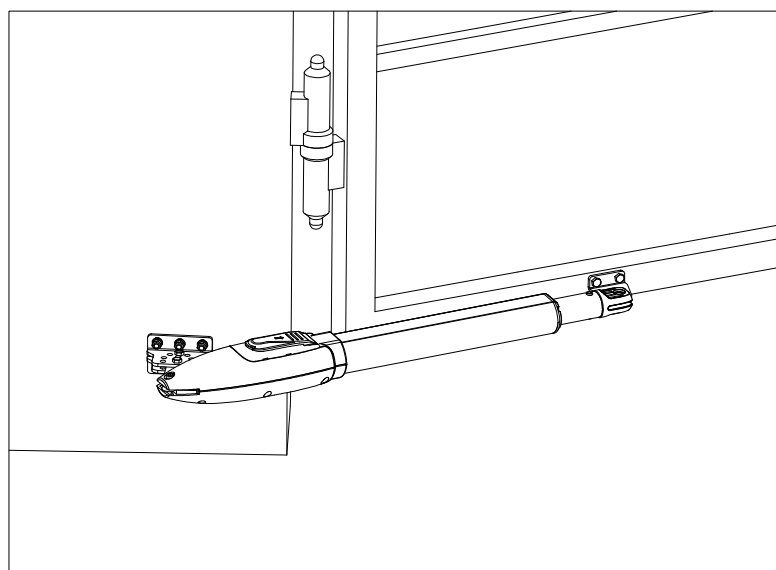

**Figure 7**
D) Connect the main machine with connecting brackets by screw and nut as shown in Figure 7.